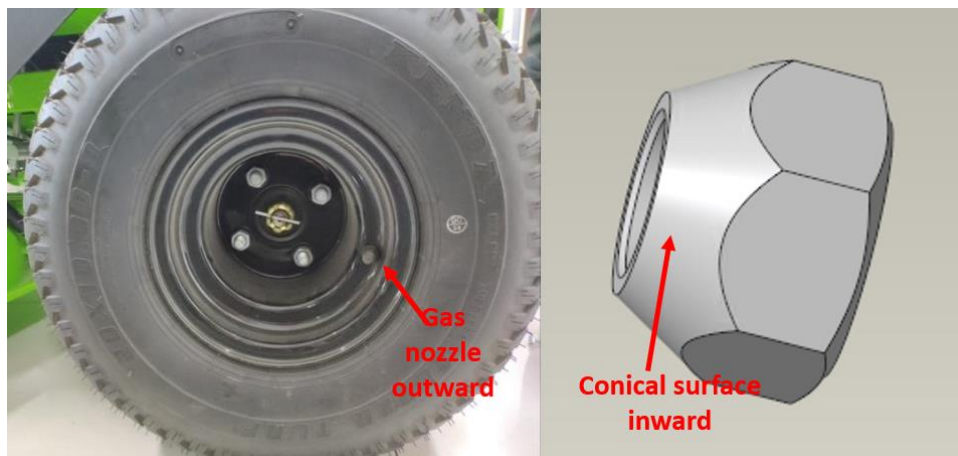

Fig. 3
3. As shown in Fig. 3, make the gas nozzle of the rear wheel facing outwards and make the conical surface of the clamp nut facing inwards. Tighten the clamp nuts (eight nuts in total for left & right rear wheels) clockwise with a 21 mm socket wrench to the torque of 95 N.m (70 Ft-lbs).